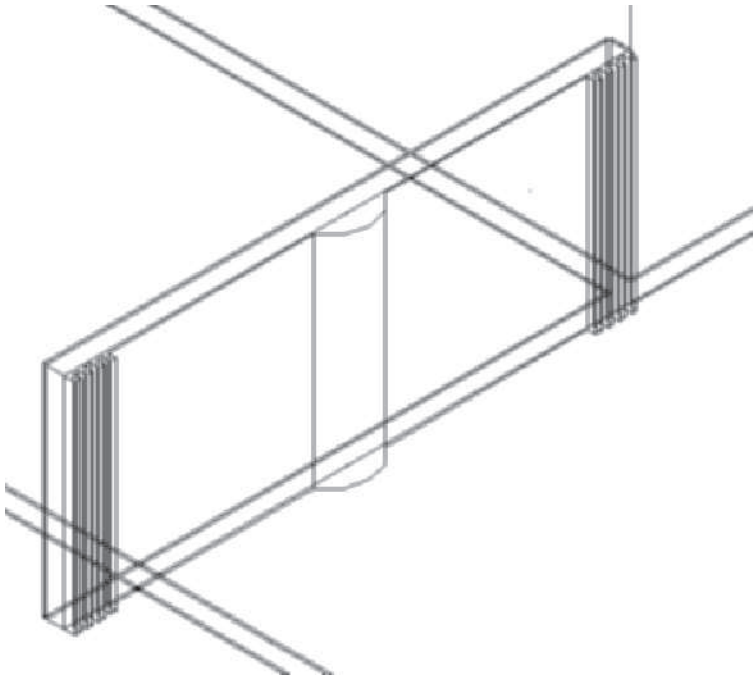

FIGURE 3.88 Wall modifiers created for wall
20. Select View, **NE Isometric** from the **View Cube** to view the wall modifiers as shown in Figure 3.88.